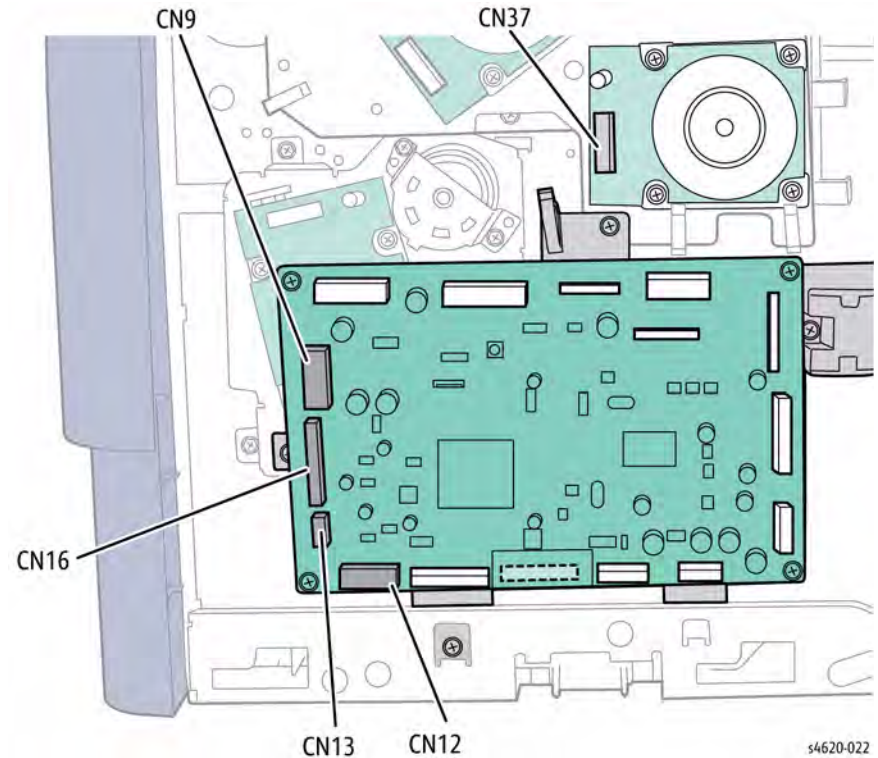

Figure 1 Remove the MCU Board bracket screws
8. Disconnect CN9, CN12, CN13, CN16 from the MCU Board and CN37 from the developer motor. Release the harnesses from the upper clamps, Figure 1.